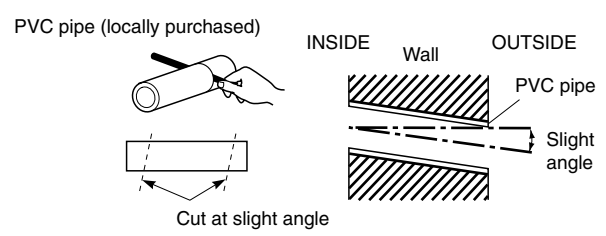

Fig. 3-125
- (9) Measure the thickness of the wall from the inside to the outside and cut PVC pipe at a slight angle to fit. Insert the PVC pipe in the wall. (Fig. 3-125)